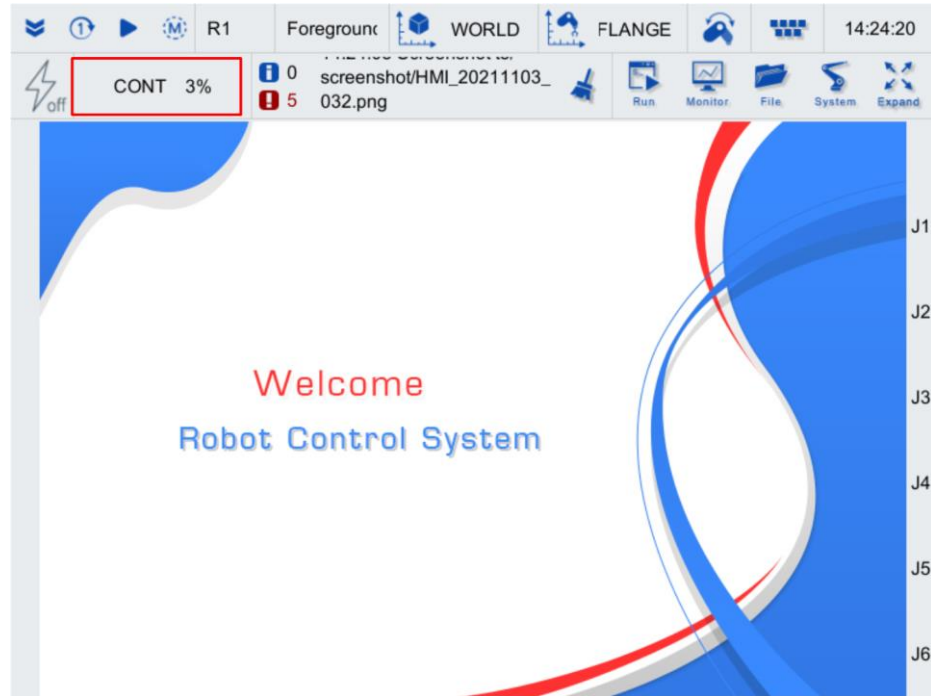

Figure 5-7 Teach Pendant Interface
Step 1. Before calibrating the positioner, click [Continuous] in the upper left corner of the teach pendant interface, as shown in Figure 5-7.